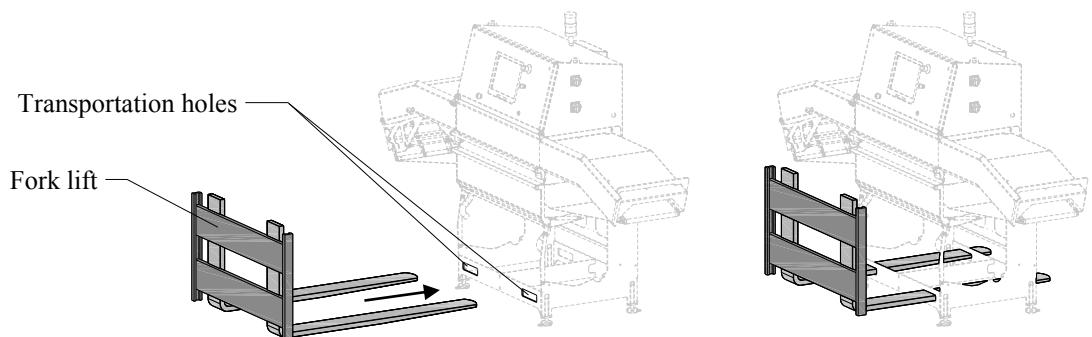

Figure 4 Transporting the SensorX with a fork lift.
- You can also use a fork lift to transport the SensorX. Use the transportation holes (see Figure 4).